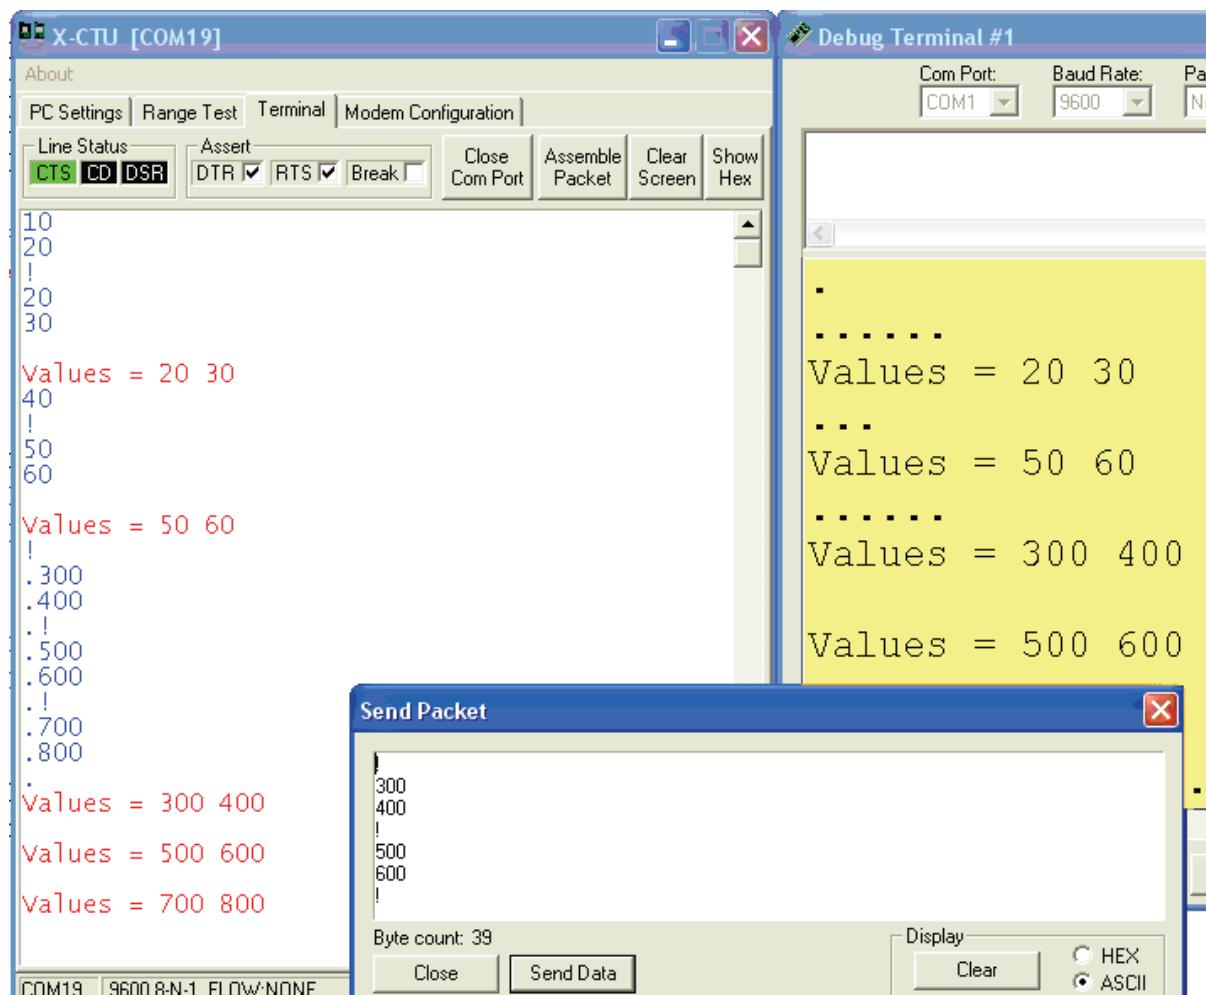

Figure 4-7: Using RTS for Decimal Values Testing
- ✓ Use the Send Packet window to make a series of numbers and !’s to be sent, and test. Notice in Figure 4-7 each set of data following the delimiter was correctly processed.